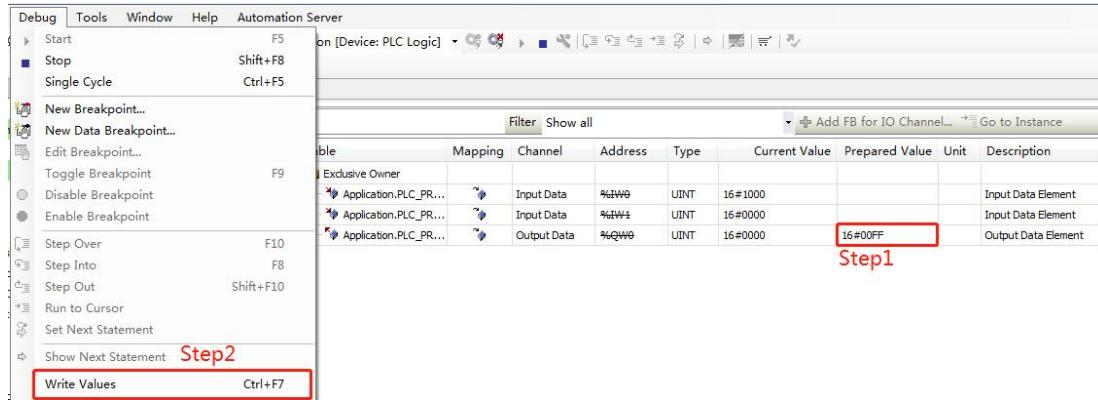

Figure 5-4-25
- QW0 channel represents DF20-M-16DO-P module. As shown in Figure 5-4-25, write the value to be output at the prepared value according to the requirements. After entering, click "Write values" to change the current value.